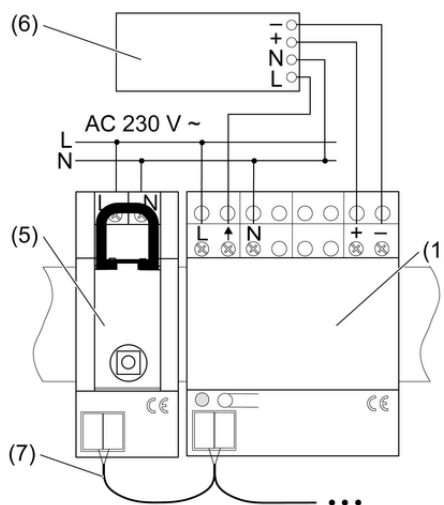

Figure 2
- Control unit (1) mounted on DIN rail.
- Connect control unit and lamp operating device (6) in accordance with connection diagram (Figure 2).
- Connect control unit via the connecting terminal (4) with a bus cable (7) with the RMD radio receiver (5) and/or other radio actuators.